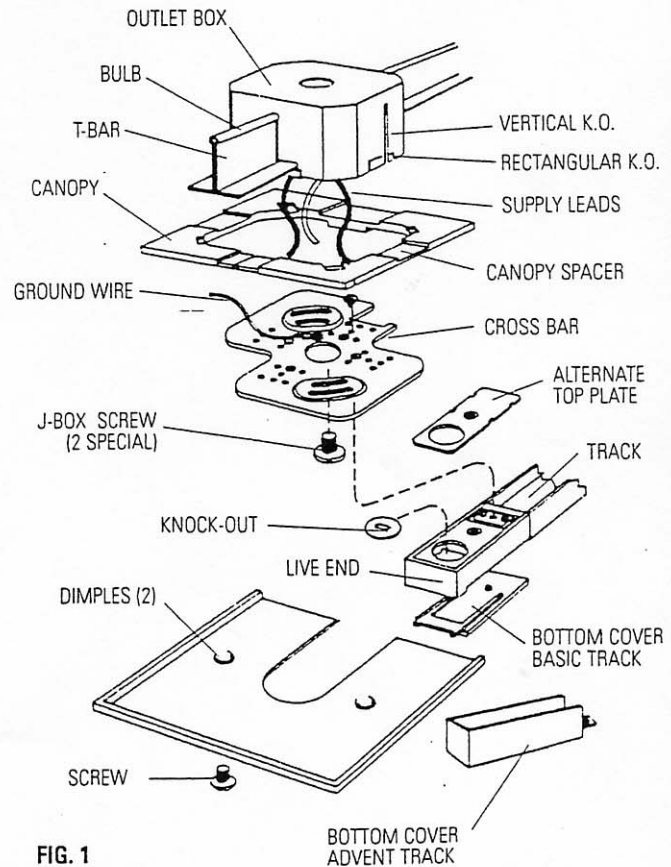

FIG. 1
1. Remove appropriate VERTICAL K.O.'s for T-BAR from OUTLET BOX. DO NOT REMOVE ANY RECTANGULAR K.O.'S. (Fig. 1)
10. Mount CROSS BAR to LIVE END with SCREW. (Fig. 1) If TRACK contains ALTERNATE TOP PLATE, no SCREW is required.
11. Line up center hole of CROSS BAR with KNOCK-OUT HOLE in LIVE END. Connect GROUND WIRE to GROUNDING TERMINAL in J-BOX (Fig. 1). Pass SUPPLY LEADS from OUTLET BOX through CANOPY SPACER, CROSS BAR CENTER HOLE and KNOCK-OUT in LIVE END. Secure the TRACK by rotating the MOUNTING CLIP into the TRACK.
12. Secure the CROSS BAR to the J-BOX using the 2 SPECIAL SCREWS included. (Fig. 1)